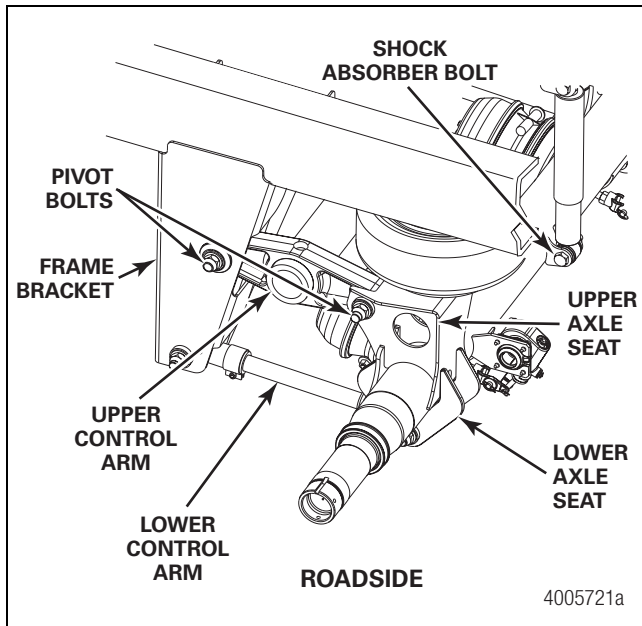

Figure 1
8. Use a jack to raise the axle approximately four inches (107 mm). Disconnect the lower shock absorber bolt. Retain the bolt for reassembly. Rotate the shock absorber UP and out of the way. Figure 1.